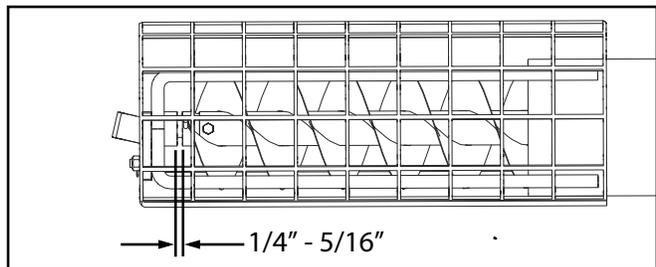

FIG. 3-3. Flight Core to Intake Spacing
2. After the top and bottom tube assemblies have been joined, check the clearance between the end of the flight tube and the intake plate. See Fig. 3.3. A minimum clearance of 1/4" at this location is required.